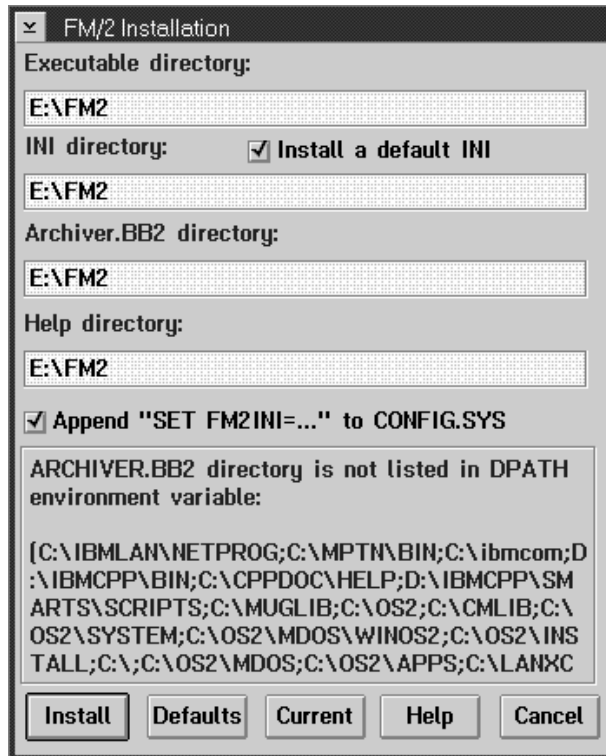

Figure 122. FM/2 installation window
- 2 The FM/2 Installation window is displayed, as shown in Figure 122 on page 201.